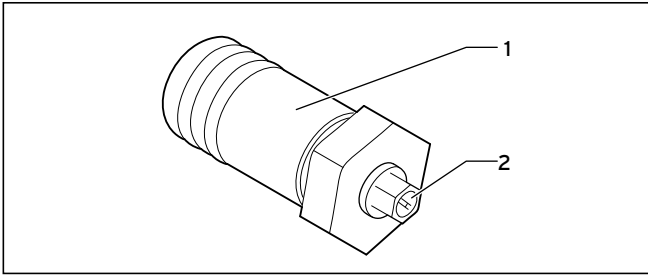

Fig. 6.1 Plug with vent opening for flat collectors
- Only for flat collectors: Venting via the vent opening (→ Fig. 6.1)